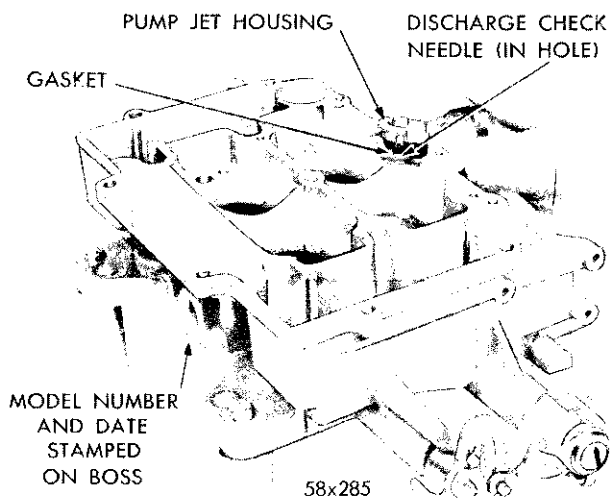

Fig. 23—Removing or Installing Accelerator Pump Jet Housing
(1) Remove the screws that attach the accelerator pump jet housing to the main body. Lift out the jet housing and gasket, as shown in Figure 23. Discard the gasket. Invert the main body and drop out the discharge check needle from the discharge passage.